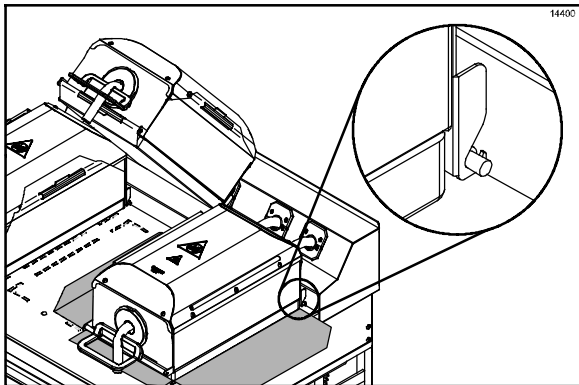

Figure 9
2. Engage the material retention bar into the hooks provided on the shroud. (See Figure 9.)